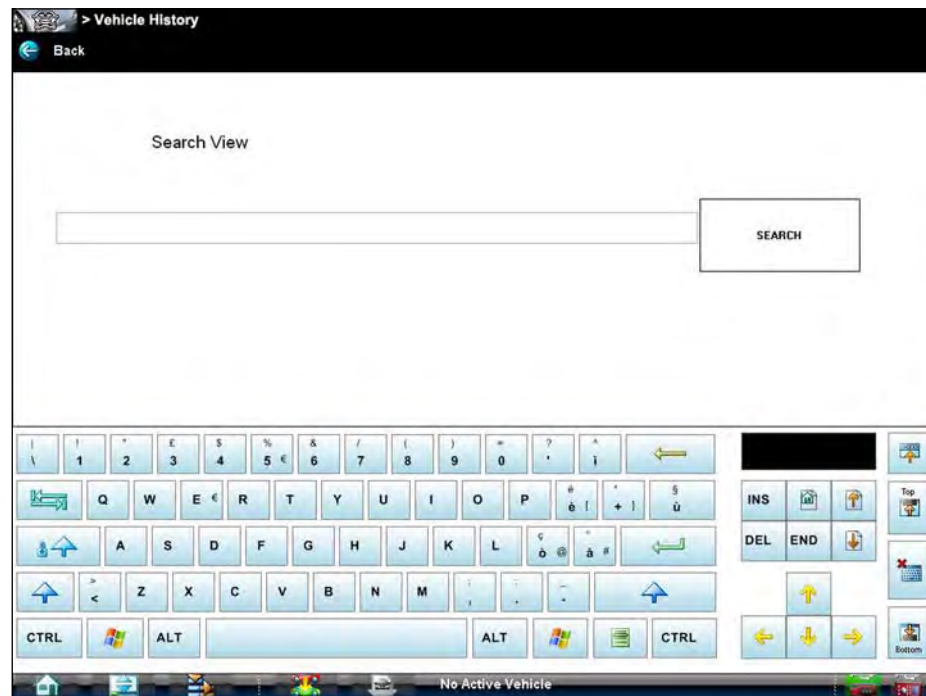

Figure 9-3 Sample Search dialog box
2. Select within the text field of the search window to open the virtual keyboard (Figure 9-3).